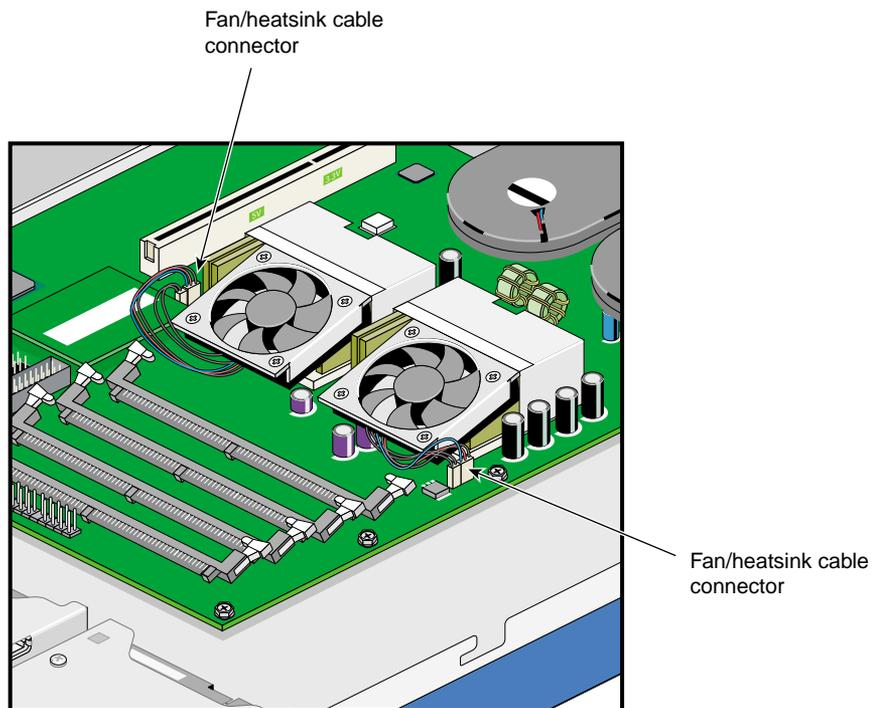

Figure 2-50 Location of the Fan/Heatsink Cable Connector
- Disconnect the fan/heatsink cable from the system board. See Figure 2-50 for the location of the cable connection.
7. Plug the fan/heatsink cables to the system board. See Figure 2-50 for the location of the fan/heatsink cable connectors.